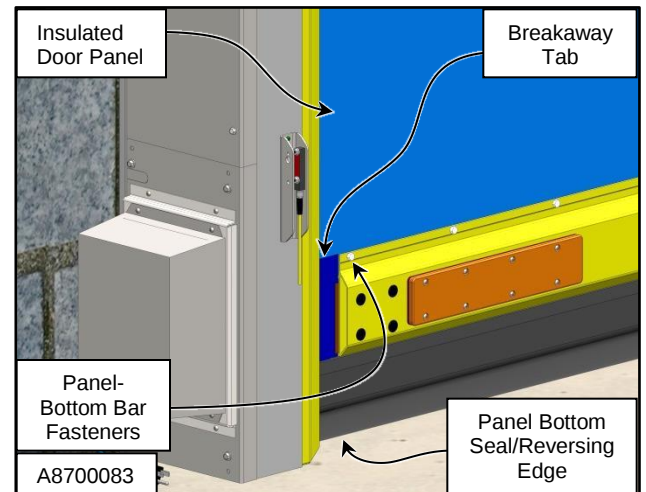

Figure 21
3. Ensure that the panel is securely fastened to the bottom bar assembly. Tighten or replace loose or damaged mounting hardware as required. (See Figure 21)